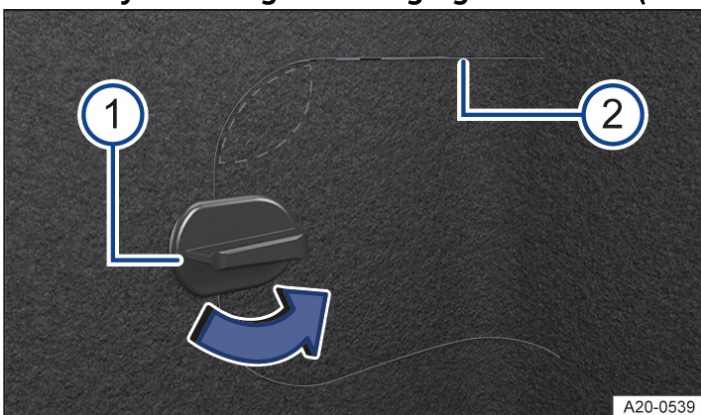

Fig. 3 Lower right-hand side of the luggage compartment trim: flap for the manual release.
2. Turn the catch on the flap by 90° → Fig. 3 ① (blue arrow).
3. Press in the area above the catch → Fig. 3 (highlighted area).
4. Reach into the opening and release the flap by pulling. If necessary, use a suitable tool at the separation points → Fig. 3 ②.